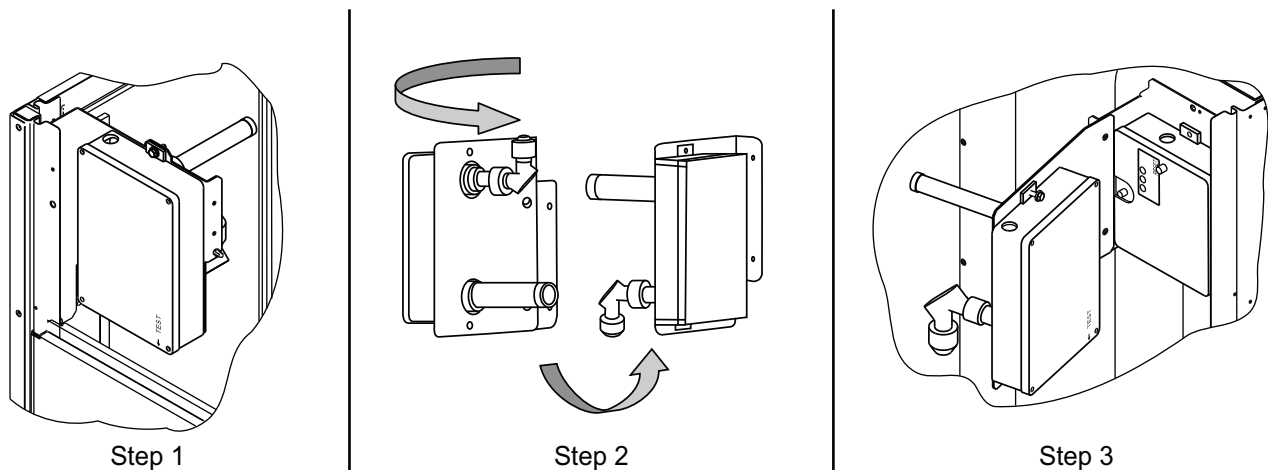

Fig. 61 — Completing Installation of Return Air Smoke Sensor
1. Unscrew the two screws holding the return-air smoke detector assembly. See Fig. 61, Step 1.
3. Turn the assembly 90 degrees and then rotate end to end. Make sure that the elbow fitting is pointing down. See Fig. 61, Step 2.
4. Screw the sensor and detector plate into its operating position using screws from Step 1. See Fig. 61, Step 3.